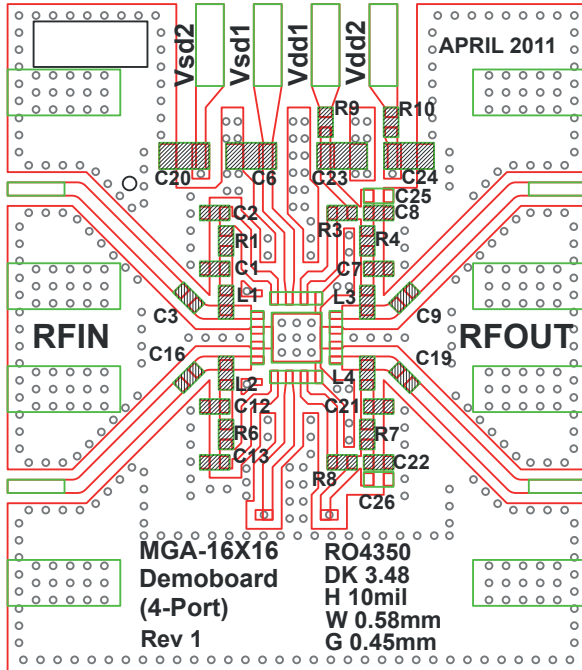
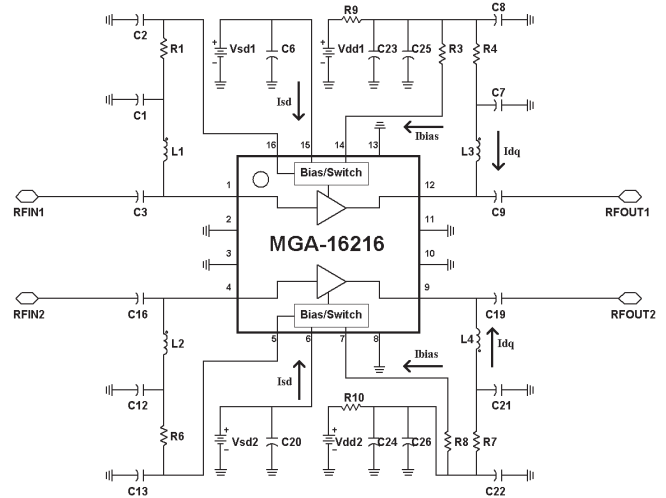

Figure 5. Demo Board Layout Diagram
Figure 6. Demo Board Schematic Diagram
4. Refer to Figure 6 for more details.
7. Bias to each LNA is adjustable using R3 and R8 (see Figure 6). Increasing R3 and R8 will reduce bias current (Idd) and vice-versa.
RF performance at  $T_A = 25^\circ\text{C}$ ,  $V_{dd} = 4.8\text{ V}$ ,  $I_{dd} = 52\text{ mA}$ , LNA mode, measured on demo board in Figure 5. Signal is CW unless stated otherwise. Application Test Circuit is shown in Figure 6 and Table 1. IIP3 test condition: FRF1-FRF2 = 1 MHz with input power of -20 dBm per tone.
2. Rbias is R3 and R8 from Figure 6.